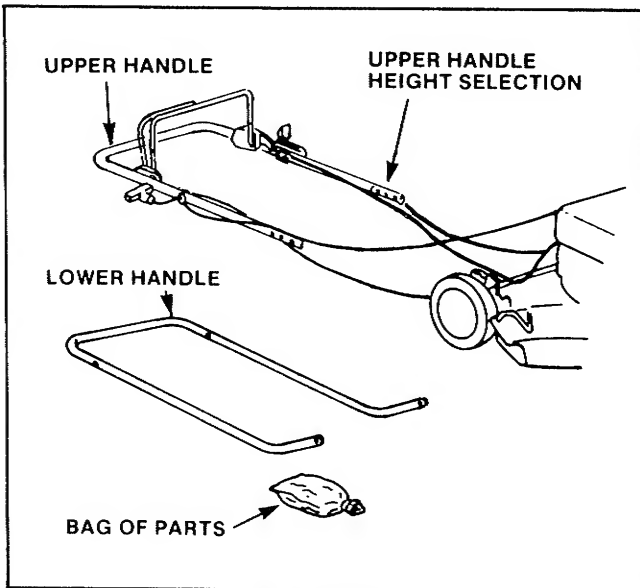
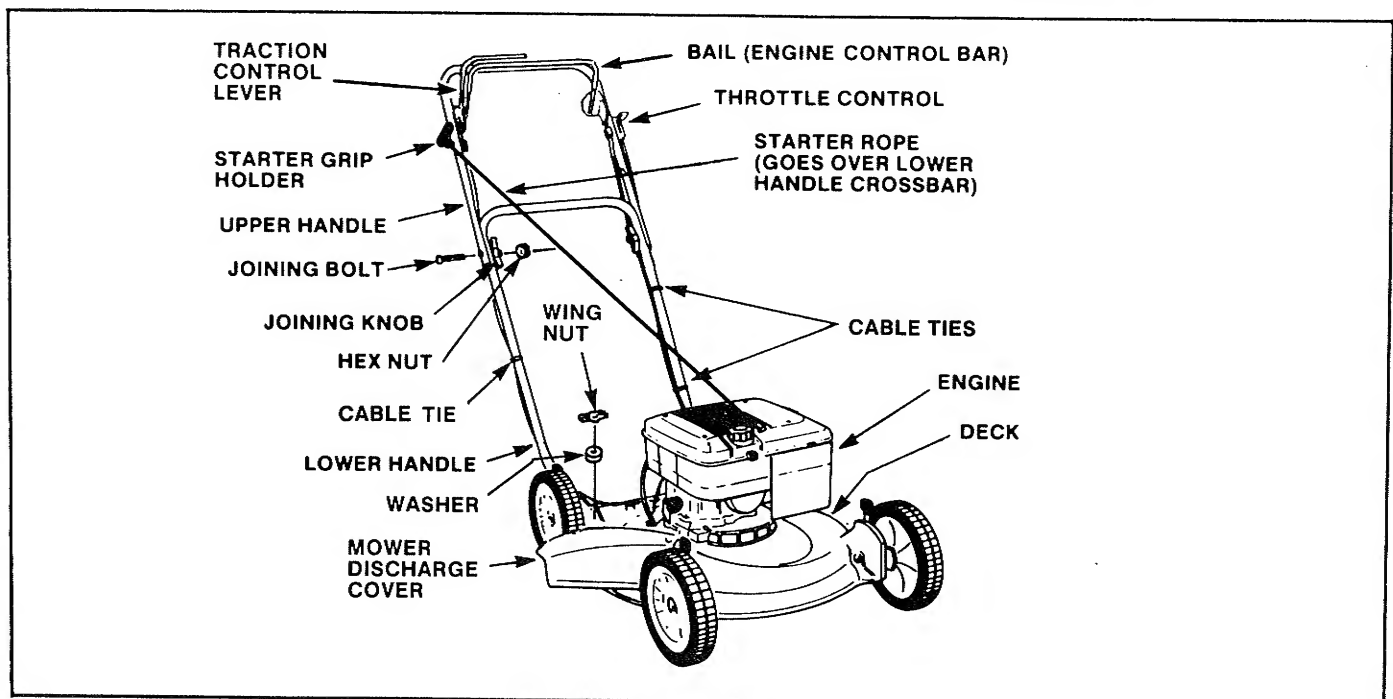

FIGURE 1
FIGURE 2
ASSEMBLING HANDLES TO DECK (Figures 1 - 3)
1. Lay the upper handle straight back from the mower so as not to pull or crimp the control cables. Lay the cables between the sides of the handles so they will go *under* the crossbar of the lower handle when the handles are put together. (See Figure 1.)
- c) Select the desired upper handle height (see Fig. 1) and push a joining bolt through holes on left side of handles, (see Figure 2). Before installing a bolt on the right side, slide starter rope up so that it is above the crossbar of lower handle.
5. Attach cable ties (from parts bag) to the lower handle on the straight portions of tubing above the bend of the handle. (See Figure 2.)